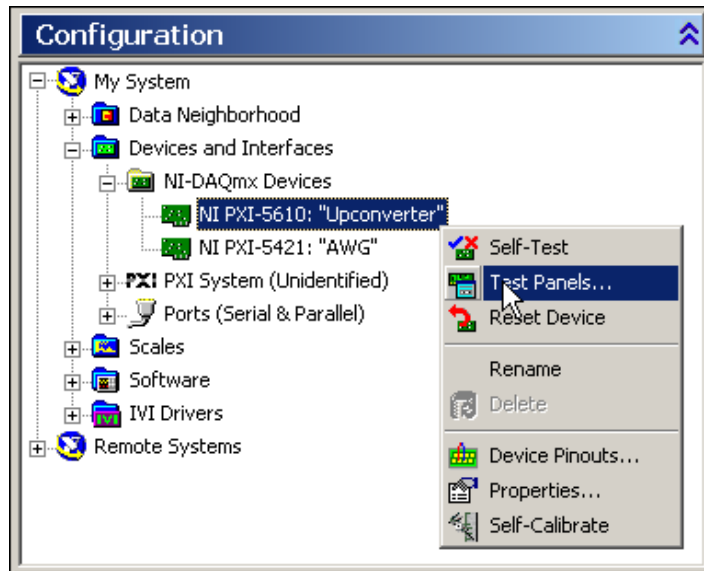

Figure 4. Open the NI 5670 Test Panel from the NI 5610 Right-Click Menu
9. In the MAX Configuration pane, right-click NI 5610 and select **Test Panels** as shown in Figure 4.